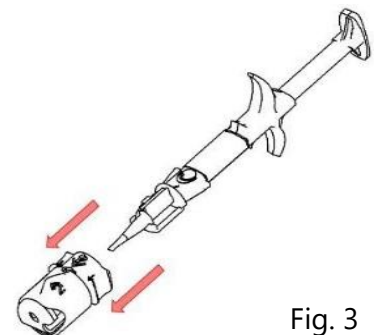

Fig. 3
7. Remove the adapter together with the rotatable ring as indicated by '4' (Fig. 3) by pulling it off, and discard it.